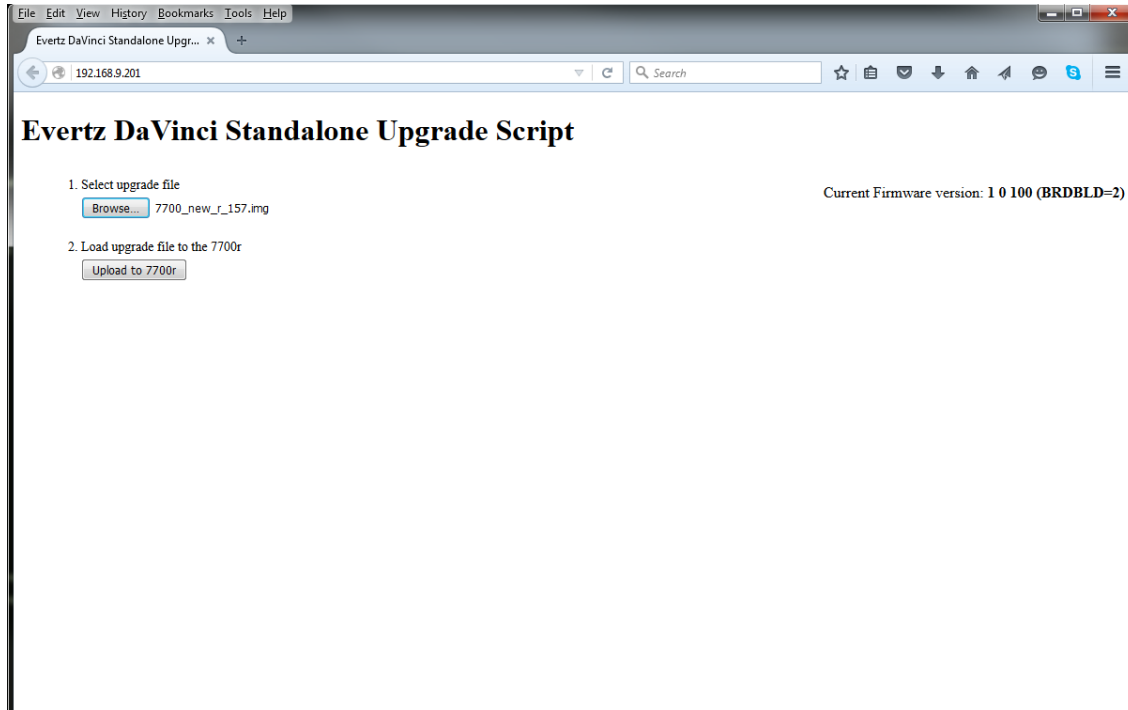

Figure 6-2: 7700R Upgrade Screen for Upload
3. Using the *Browse...* button, select the new file that should be saved on your computer. This file will have an extension of .img. Once a file has been selected, a button "Upload to 7700r" will appear below as shown in Figure 6-2.